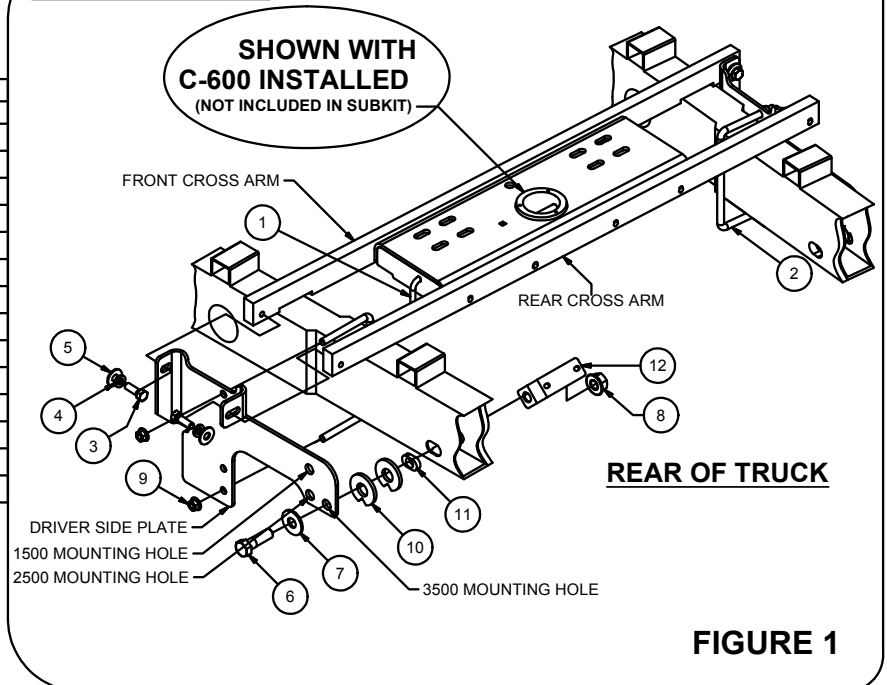

FIGURE 1
- 8) Attach the sideplates to the frame of the truck using a U-bolt and 3/4" hex bolt. **For 3/4 and 1 ton applications**, use the large U-bolt in order to span the truck frame. The smaller U-bolt is used for **1/2 ton and 3/4 ton light duty trucks**. Position the U-bolt from the inside of the truck frame, make sure not to damage or pinch the wiring harness or brake lines. Attach to the sideplate using two 1/2" flange nuts. **(Finger tight only)** Attach the rear section of the sideplate to the frame using a 3/4" hex bolt and 3/4" washer through the sideplate and frame. Finger tighten a 3/4" flange nut to the bolt on the inside of the frame. **For 3/4 and 1 ton heavy duty trucks**, use the bottom hole on the sideplate. **For 1/2 ton and 3/4 ton light duty trucks**, use the top hole on the sideplate. These are called out on **Figure 1**.